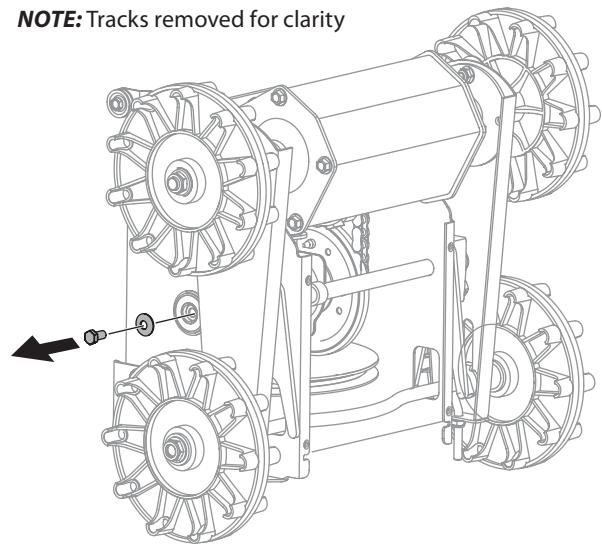

Figure 7-8
4. Using a $\frac{3}{4}$ " wrench to hold the gear shaft, remove the hex bolt and bell washer on the left end of the gear shaft. See Fig. 7-8 and 7-9.